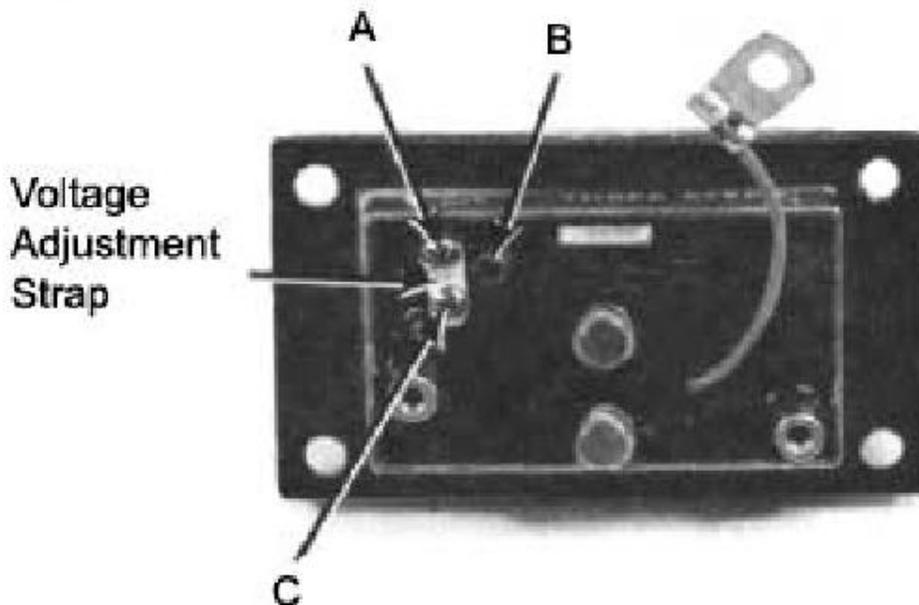

Figure 5
3. Remove the four screws from the regulator cover. Lift regulator out of housing and move it out of the way as far as the leads will permit. Inspect the two regulator brush contact pads. If dirt or corrosion is noticed then clean pads with #600 sand paper (or finer) (Figure 5).